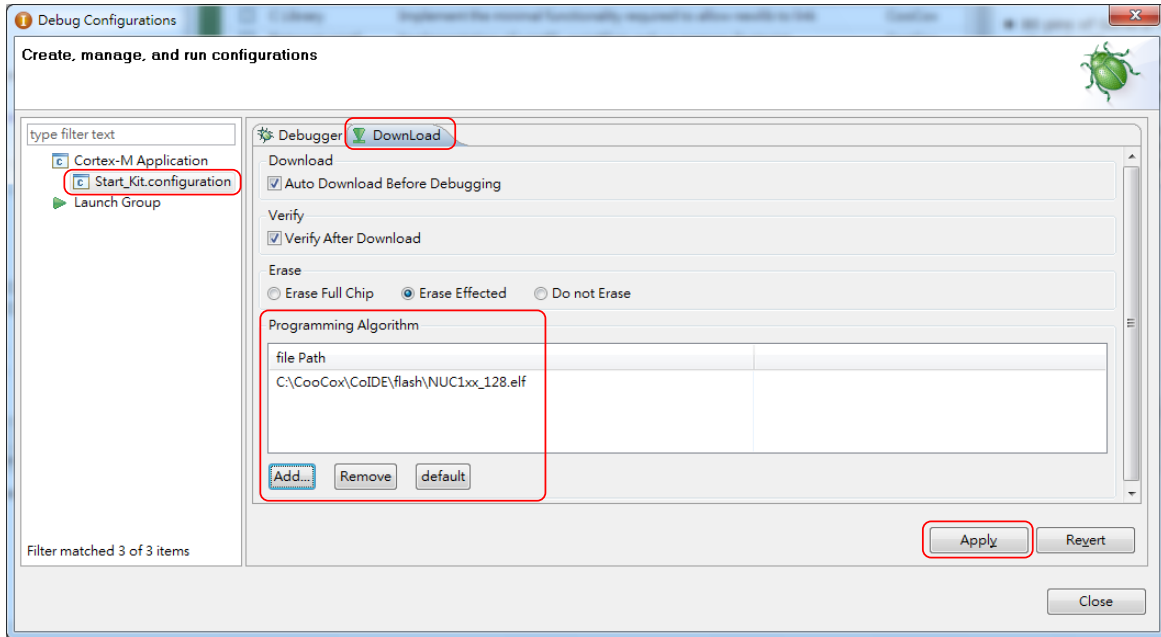

Figure 4-21 CoxCox CoIDE Programming Settings
Step 4: In the **Download** tab of the *Debug Configurations* form (through invoking **Debug** → **Debug Configurations**), select the **Auto Download Before Debugging** or **Verify After Download** option to proceed with a specific programming, and set the Programming Algorithm path as “C:\CooCox\CoIDE\flash\NUC1xx\_128.elf”, as shown in Figure 4-21.
Step 6: At last, click **Apply** to save the settings, as shown in Figure 4-21.